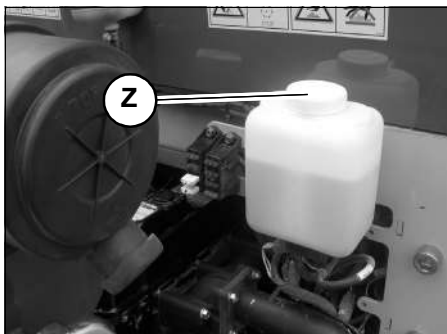

Figure 88 – Windshield Washer Reservoir (Cab Only)
3. As necessary, remove cap (Z, *Fig. 88*) from the windshield washer reservoir and fill with windshield washer fluid.
4. Replace cap (Z) and close the engine cover.